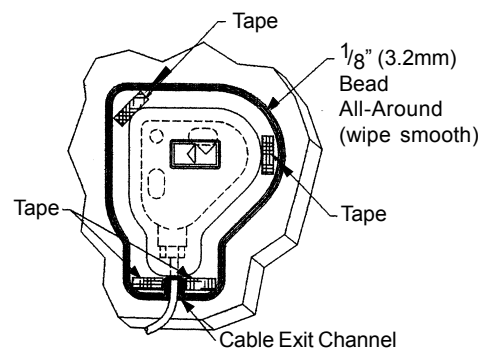

Figure 3-13. Environmental Cover
9. Fig 3-13. Peel the protective backing from the double-sided tape on the environmental cover's inside flange.